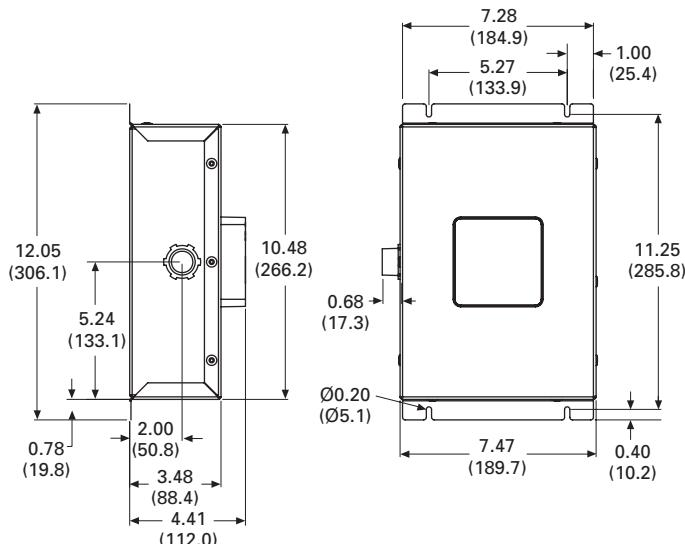

Figure 2. 120-200kA Units in a NEMA 1 Enclosure,
1. Before mounting the SPD, first determine the location and ensure that the mounting surface can support the weight of the SPD (See Figures 2 , 3 and 4 for model weights). For maximum performance, mount the unit as close as possible to the wiring connection points within the enclosure.
2. Lay out the four enclosure mounting holes using the enclosure dimensions provided in Figures 2, 3 and 4. Drill the appropriate holes per the product dimensions and use #10 fasteners for NEMA 1 enclosures and 1/4" fasteners for NEMA 4X enclosures.